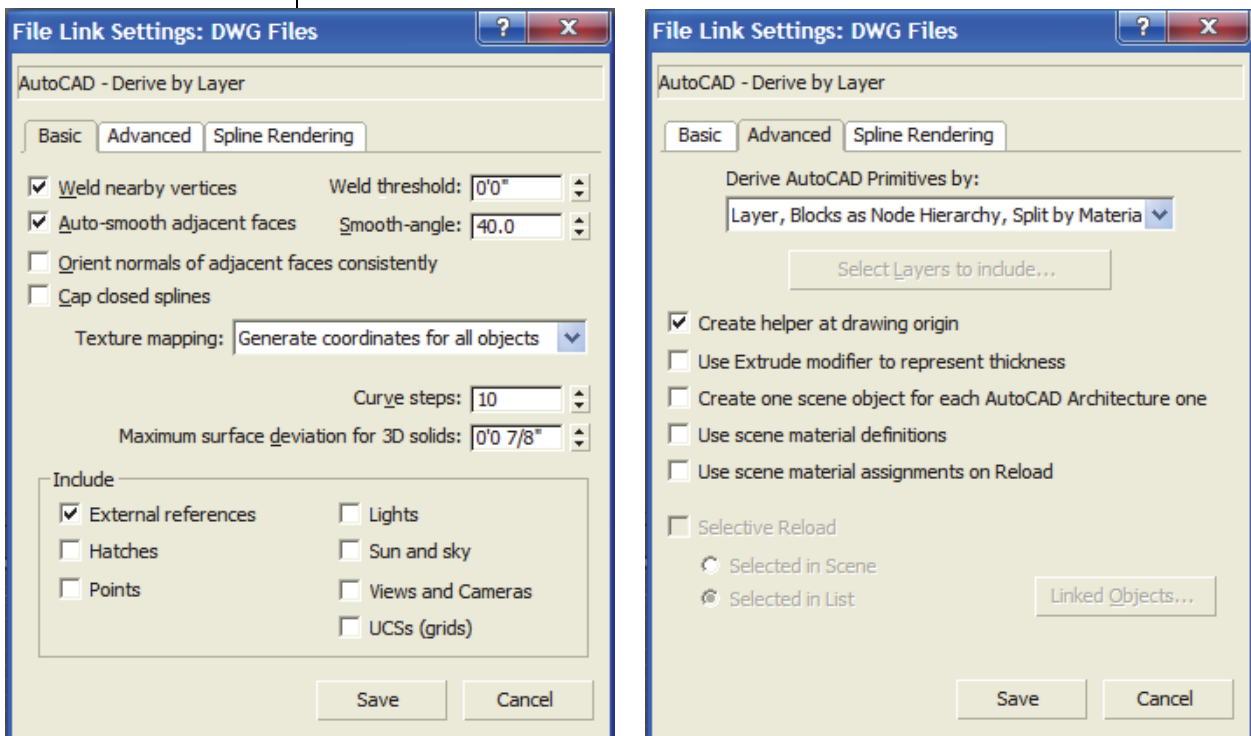

Figure 3–22
8. Select the *Spline Rendering* tab and verify that the link options are set as shown in Figure 3–23.